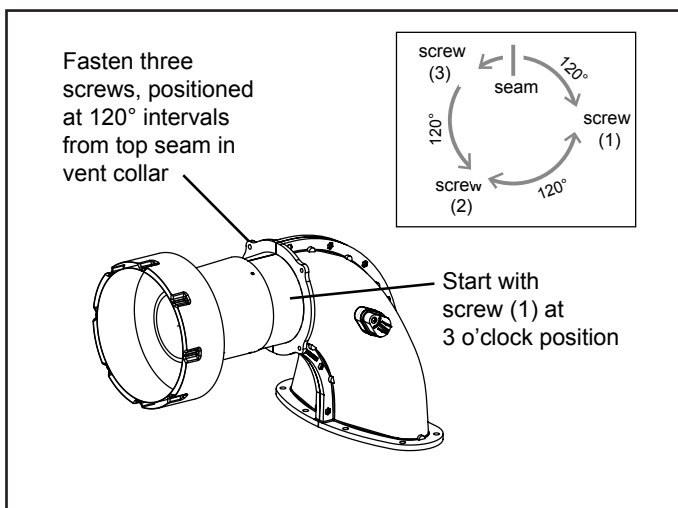

Figure 7. Correct positioning of screws on vent collar
5. Connect the 4 inch double-wall appliance adapter for category I or vent connector for category III to the flue collar and fasten with three (3) sheet metal screws, as shown in Figure 7).
NOTE: It is important to position the three screws so the seal in the flue collar is not compromised. Begin with first screw at 3 o'clock position from top of the flue collar seam. Install screws 2 and 3 in positions 120 degrees apart (as shown in Figure 7).